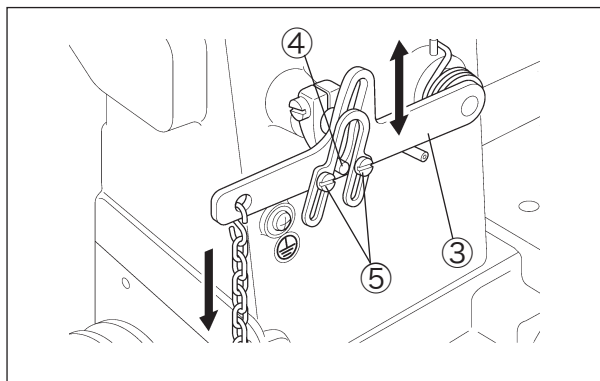

Fig. 6-41
- (1) Turn the handwheel, and set the feed dog to the same height as the top surface of the stitch plate. At the position where the presser foot lifter lever ③ was pushed down and the presser foot ⑫ was turned to left side by 60 to 80 degrees, insert the presser foot into the presser bar ⑭ while pushing the presser foot ⑫ down so that it will not be made to rise by the yielding section. (Fig. 6-41, 6-47)
- (6) Return the upper knife ⑧ to its original position. For details on engaging the upper and lower knives, refer to “5.12 Adjusting lapped width of upper fabric” and “5.13 Adjusting lapped of fabric” .
- (7) Adjust the lifter lever stop ④ position. (Fig. 6-41) (Refer to “6.4 Height of presser foot”)